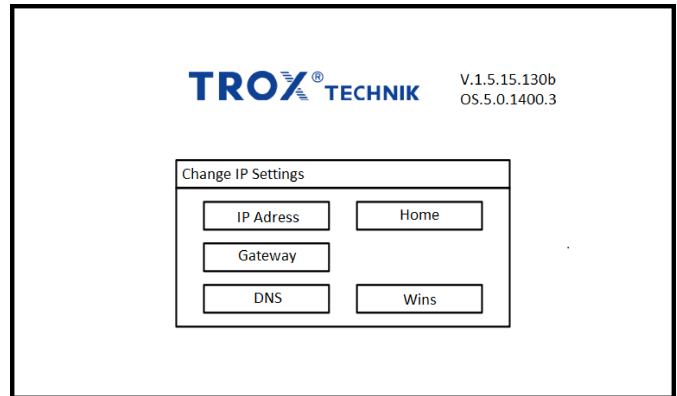

Fig. 59: Change IP Settings
7. ▶ In the 'IP Address' window enter the new IP address and subnet for the touch panel. Confirm your entries with 'OK'. In the 'Change IP Settings' window ( Fig. 59 ) select 'Gateway'.
8. ▶ In the 'Gateway' window enter the new gateway settings. Confirm your entries with 'OK'. In the 'Change IP Settings' window ( Fig. 59 ) select 'Home' and accept that changes are saved.